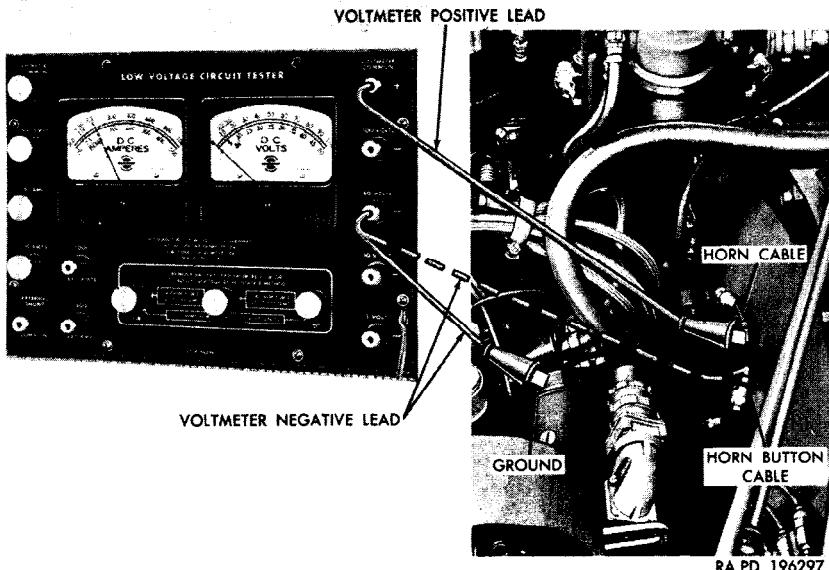

Figure 64. Checking for current through horn cables.
- (3) *Horn cable (wiring harness) faulty.* Check the horn cable in the wiring harness, using the low voltage circuit tester (fig. 64).
- (b) Disconnect the two horn cables at the cable connectors on the horn and connect cable (25) to cable (25A).
- (e) Observe the voltmeter lower scale. The voltmeter should show battery voltage (approximately 24 volts). If no voltage reading is indicated, the horn cables in the wiring harness are probably defective. Notify ordnance maintenance personnel. If voltage reading is normal, proceed with (4) below.
- (4) *Horn button cable or horn button parts faulty.* Check the horn button cable, using the low voltage circuit tester (fig. 64).